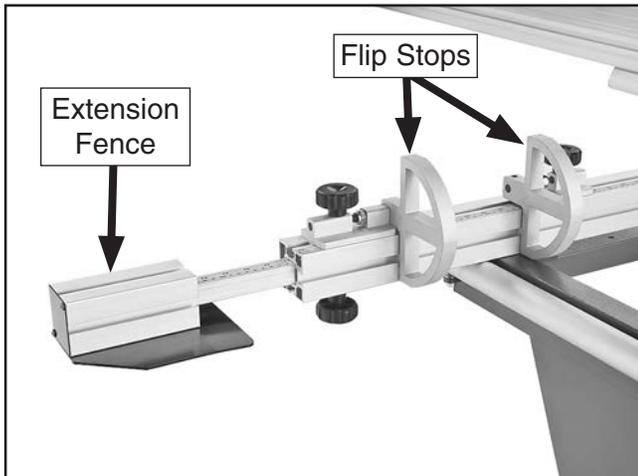

Figure 50. Crosscut flip stops installed.
57. Move the crosscut extension fence out so that you can install the flip stop assemblies, as shown in **Figure 50**.